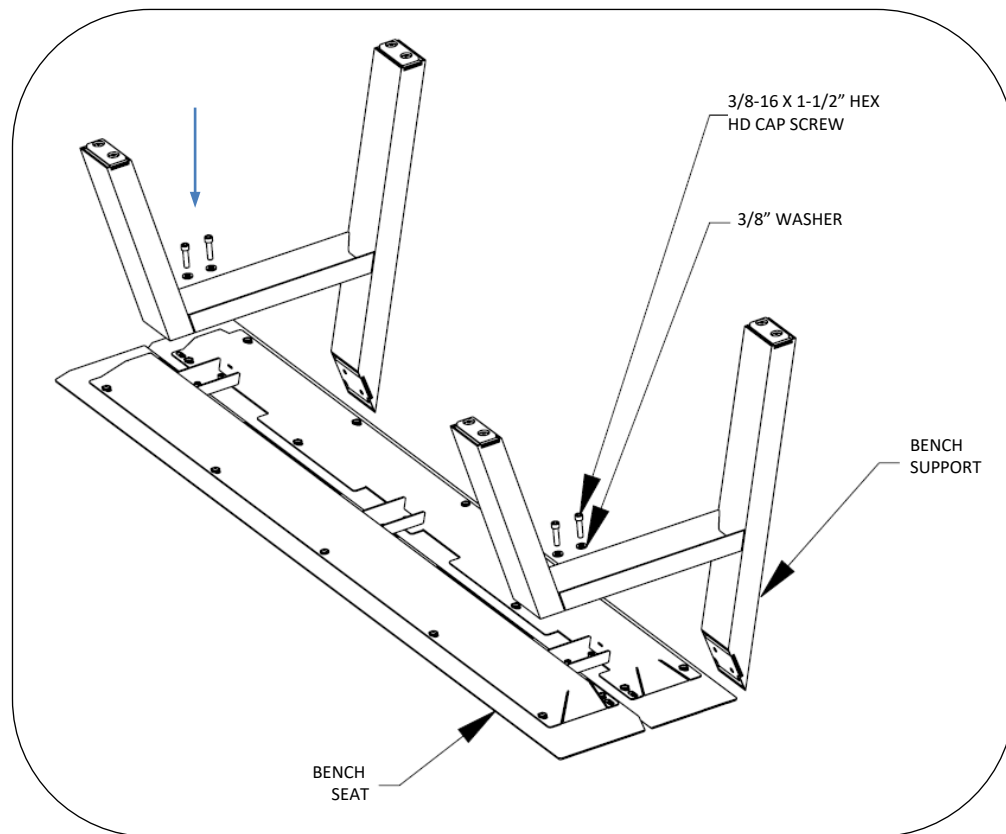

Fig. 1 – attach supports to bench seat
2. Attach bench supports to bench seat, using (2) 3/8-16 x 1-1/2" hex head cap screws and washers per support, see Fig. 1.